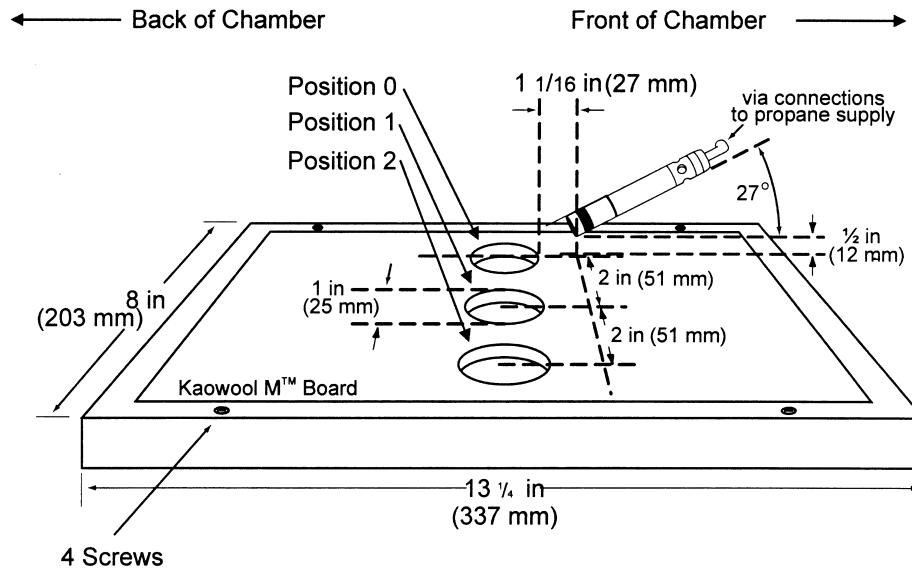

Figure 7 - Calorimeter Holding Frame
(e) *Apparatus Calibration.* (1) With the sliding platform out of the chamber, install the calorimeter holding frame. Push the platform back into the chamber and insert the calorimeter into the first hole ("zero" position). See figure 7. Close the bottom door located below the sliding platform. The distance from the centerline of the calorimeter